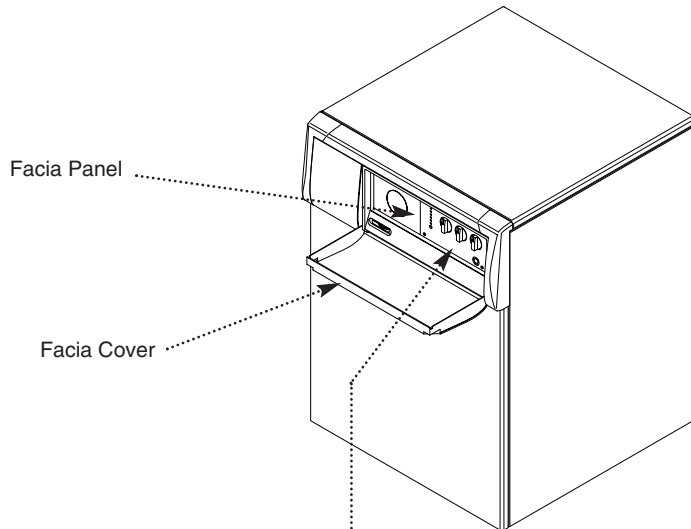

Fig. 5
1. Ensure that the gas and electricity supplies are turned on and that all timers, thermostats etc. are calling for heat. Hinge down the facia cover (Fig. 5).